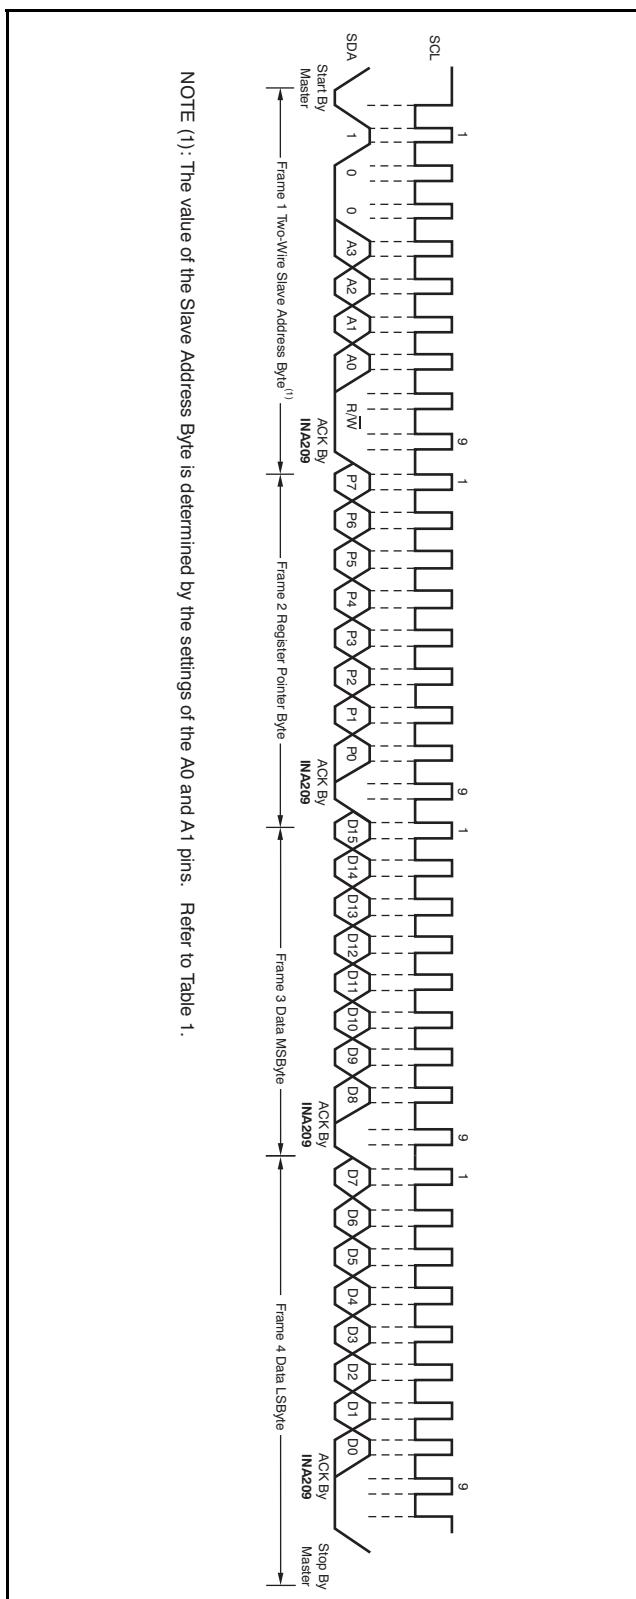
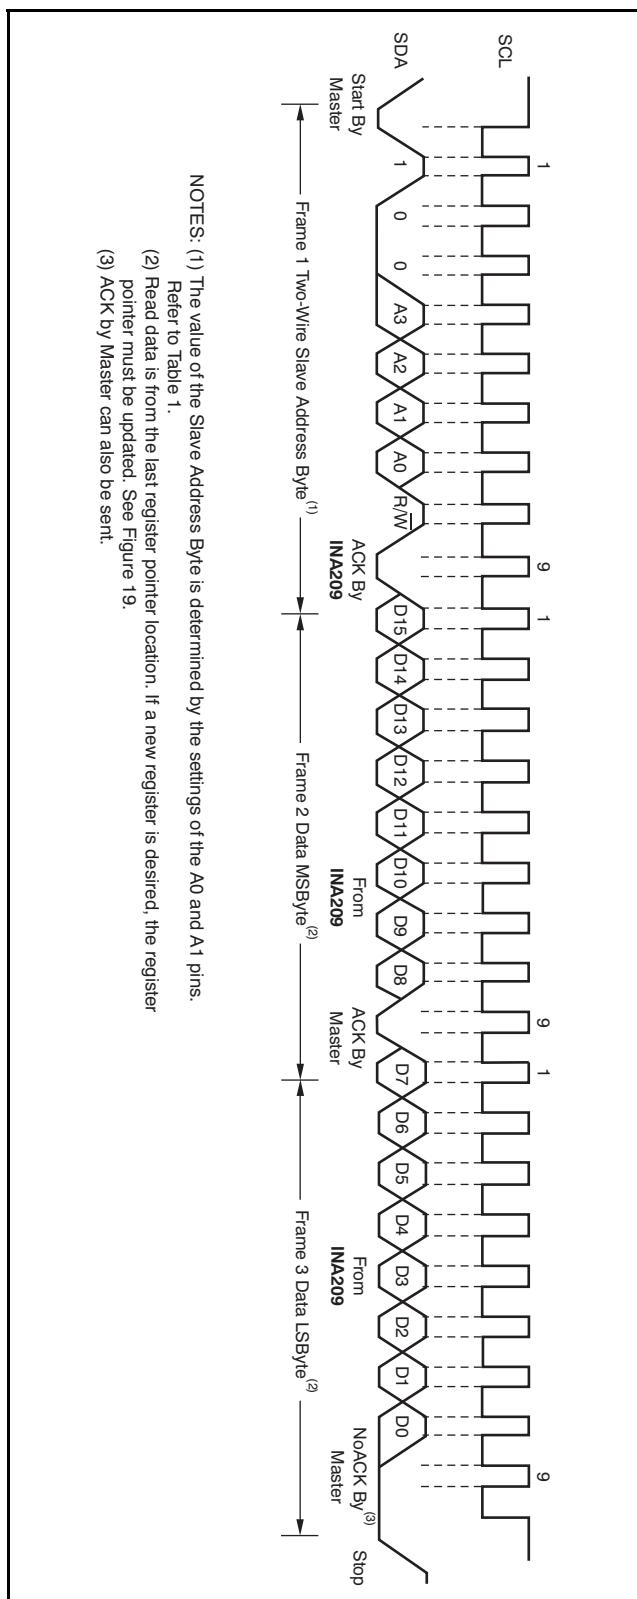
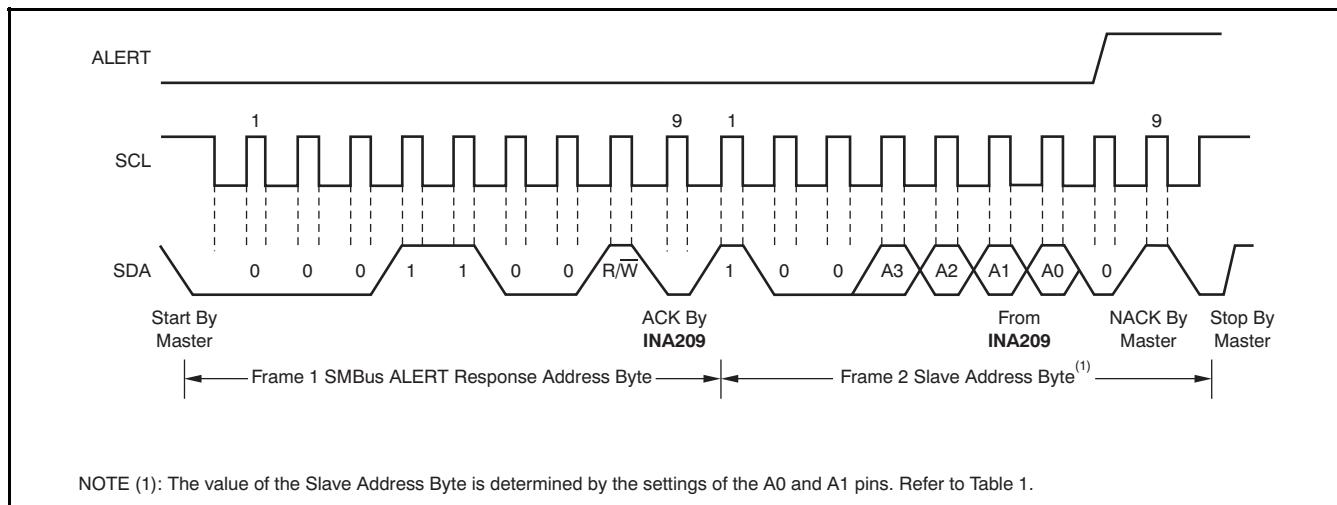
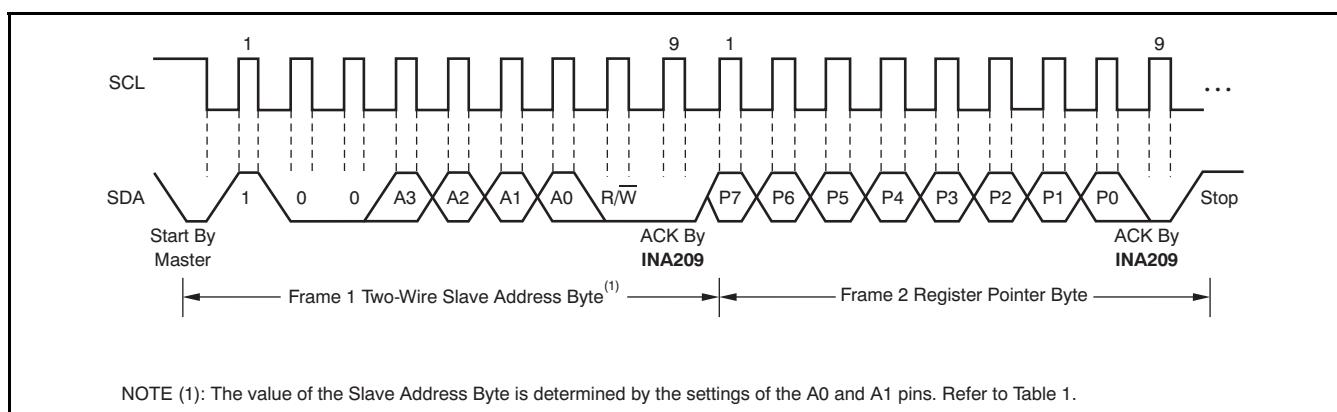

Figure 16. Timing Diagram for Write Word Format
Figure 17. Timing Diagram for Read Word Format
Figure 18. Timing Diagram for SMBus ALERT
Figure 19. Typical Register Pointer Set
Accessing a particular register on the INA209 is accomplished by writing the appropriate value to the register pointer. Refer to Table 2 for a complete list of registers and corresponding addresses. The value for the register pointer as shown in Figure 19 is the first byte transferred after the slave address byte with the R/W bit LOW. Every write operation to the INA209 requires a value for the register pointer.
Figure 16 and Figure 17 show read and write operation timing diagrams. Note that register bytes are sent most-significant byte first, followed by the least significant byte. Figure 18 shows the timing diagram for the SMBus Alert operation. Figure 19 illustrates a typical register pointer configuration.
(2) Read data is from the last register pointer location. If a new register is desired, the register pointer must be updated. See Figure 19.
(3) ACK by Master can also be sent.